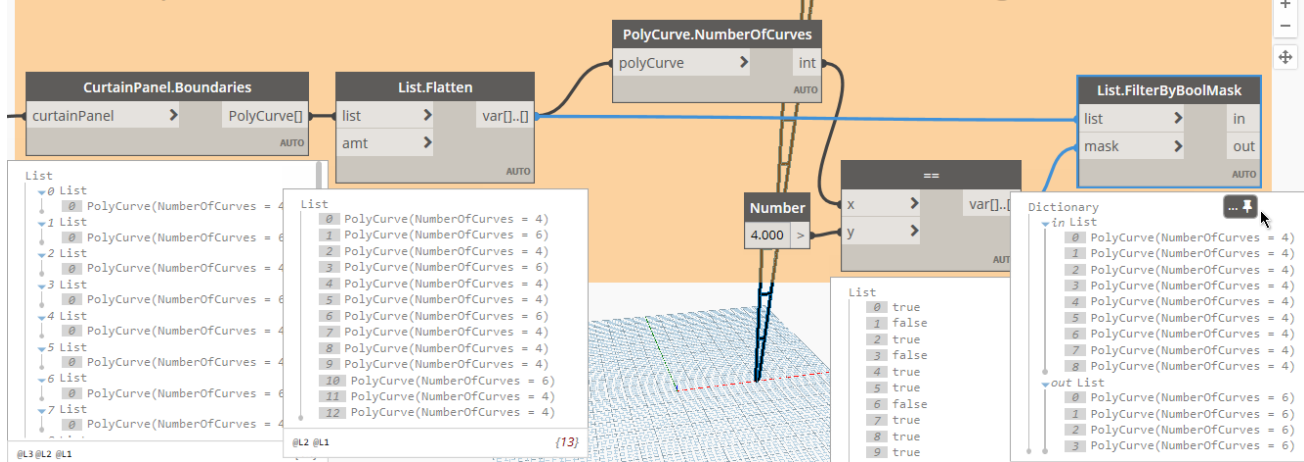

FIGURE 98
26. Feed the output of the **Flatten** node (Our list of PolyCurves) into the list input (see Figure 98).